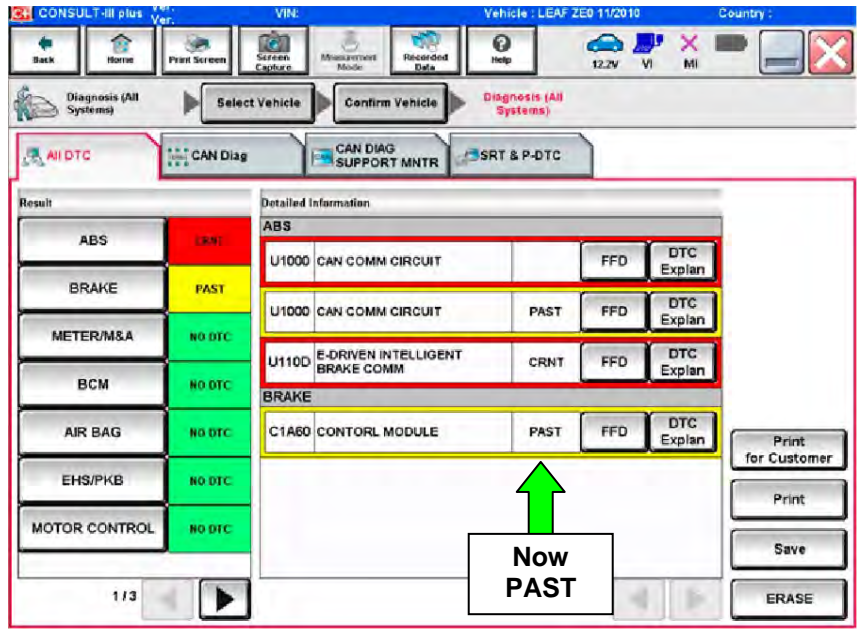

Figure 29
- Figure 29 should now be displayed with C1A60 as a PAST DTC.